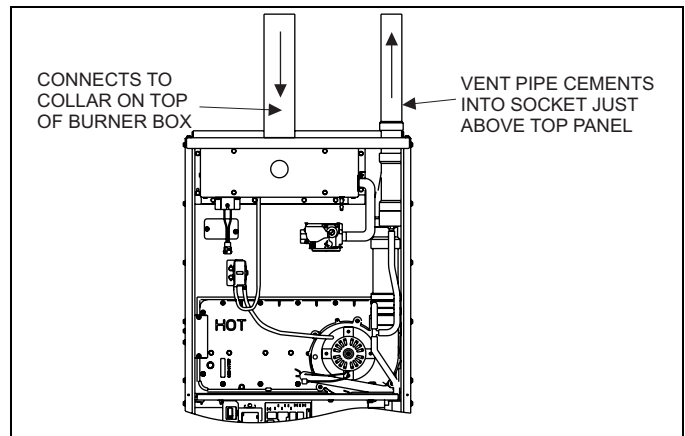
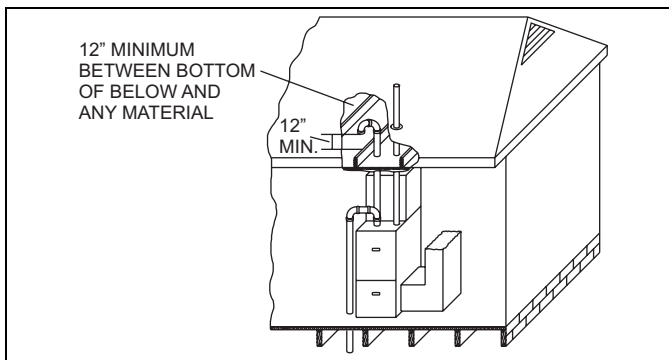

FIGURE 19: Sealed Combustion Air Intake Connection and Vent Connection
FIGURE 22: Attic and Crawl Space Combustion Air Termination
The combustion airside of the two-pipe configuration shown in Figure 19 can be installed so the combustion air pipe terminates as described in outdoor combustion air or ventilated combustion air sections in these instructions. Follow the instructions for outdoor combustion air or ventilated combustion air and the instructions for installing the vent system with the vent terminating as shown in Figure 22. The two-pipe system must have a separate combustion air pipe and a separate vent pipe for each furnace. Under NO circumstances can the two combustion air or vent pipes be tied together. The combustion air and vent pipes must terminate in the same atmospheric zone.
1. **OUTDOOR COMBUSTION AIR:** This is a sealed combustion air configuration where the combustion air is supplied through a PVC or ABS pipe that is connected to the PVC coupling attached to the burner box and is terminated in the same atmospheric zone as the vent. This type of installation is approved on all models. Refer to Figure 19.
3. **VENTILATED COMBUSTION AIR:** Combustion air is supplied through a PVC or ABS pipe that is connected to the PVC coupling attached to the burner box and is terminated in a ventilated attic or crawl space. The combustion air and the vent pipes are not terminated in the same atmospheric zone. Refer to Figure 22 for attic and crawl space termination. Only the combustion air intake may terminate in the attic. The vent must terminate outside.
This installation requires combustion air to be brought in from outdoors. This requires a properly sized pipe (Shown in Figure 19) that will bring air in from the outdoors to the furnace combustion air intake collar on the burner box. The second pipe (Shown in Figure 19) is the furnace vent pipe.
Refer to Figure 22 for required attic termination for the combustion air intake pipe. For attic termination, use two 90 elbows with the open end in a downward position. Be sure to maintain 12" (30 cm) clearance above any insulation, flooring or other material.